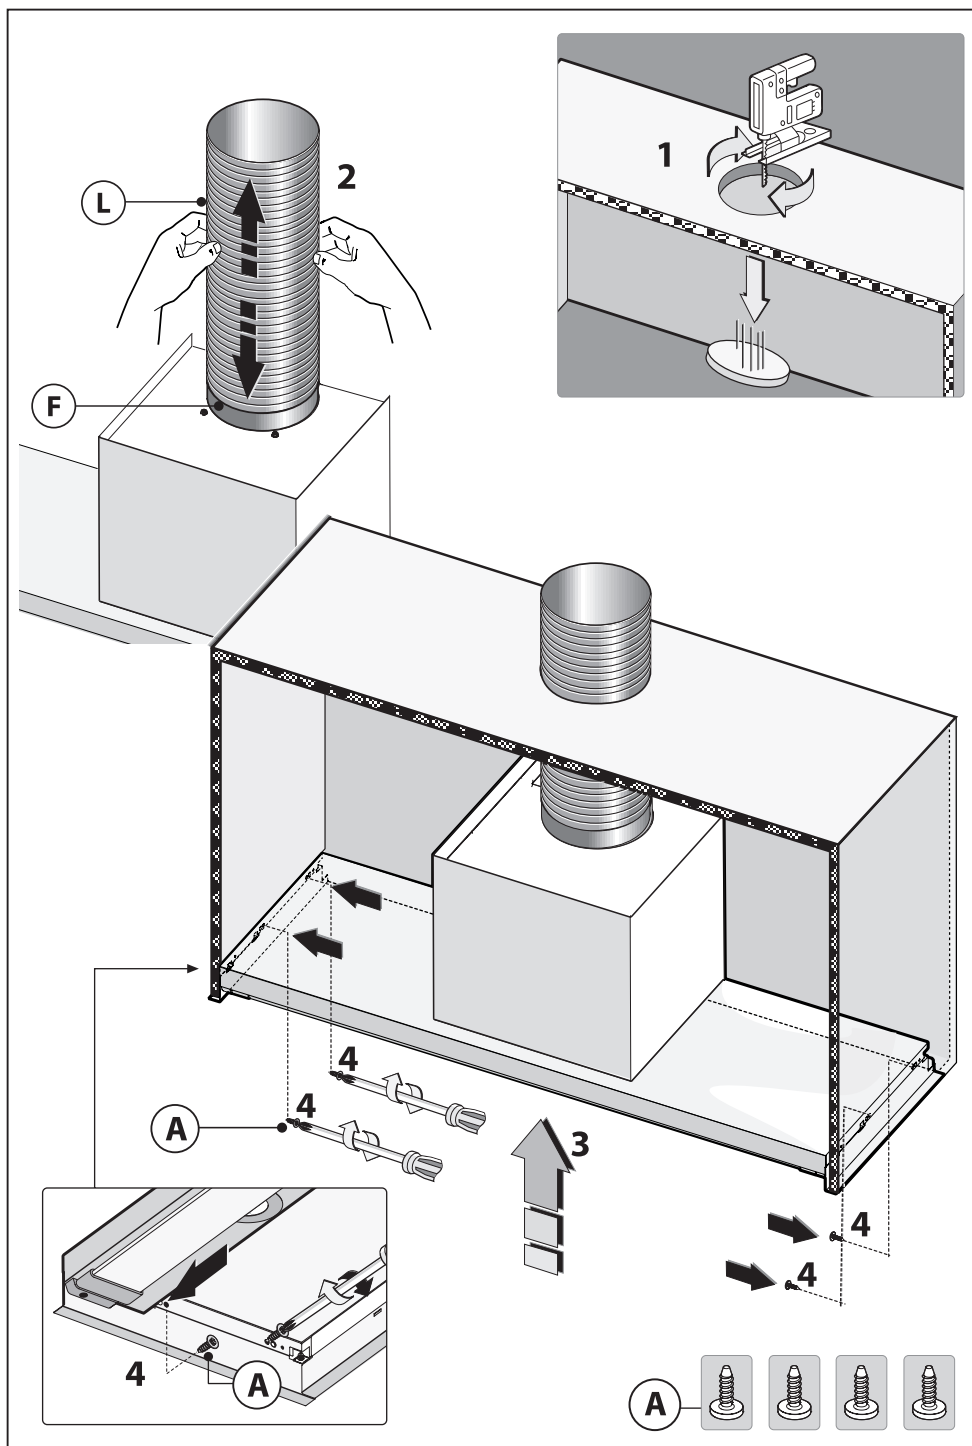

Fig.4
- In the case of assembly of the appliance in the suction version prepare the hole for evacuation of the air Fig. 4 – phase 1.
- Connect flange **F** to the air exhaust hole using flexible hose **L** Fig. 4 – phase 2.
- Align the hood to the unit and fasten it with the 4 screws **A** supplied Fig. 4 - step 3-4.